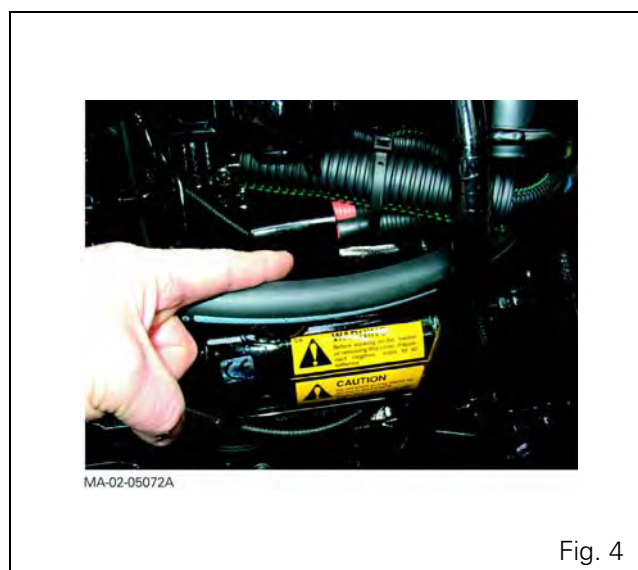

Fig. 4
11. Disconnect the cables connected to the positive terminal of the starter (Fig. 4).